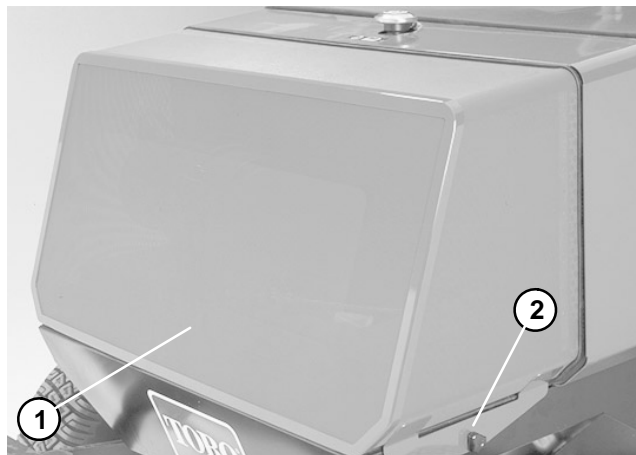

Figure 10
2. Remove knobs securing rear screen to frame. Remove rear screen (Fig. 10).